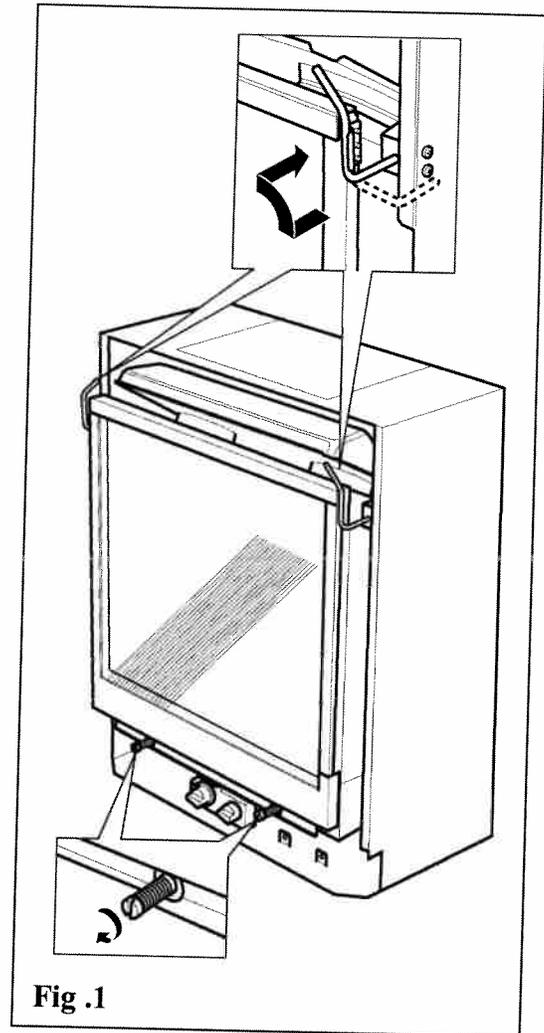

Fig .1
- Release the top of the window by pulling forward and rotating outwards the two bars at the top corners. See figure 1.
- Unscrew the two spring loaded bolts securing the bottom of the window. See figure 1.